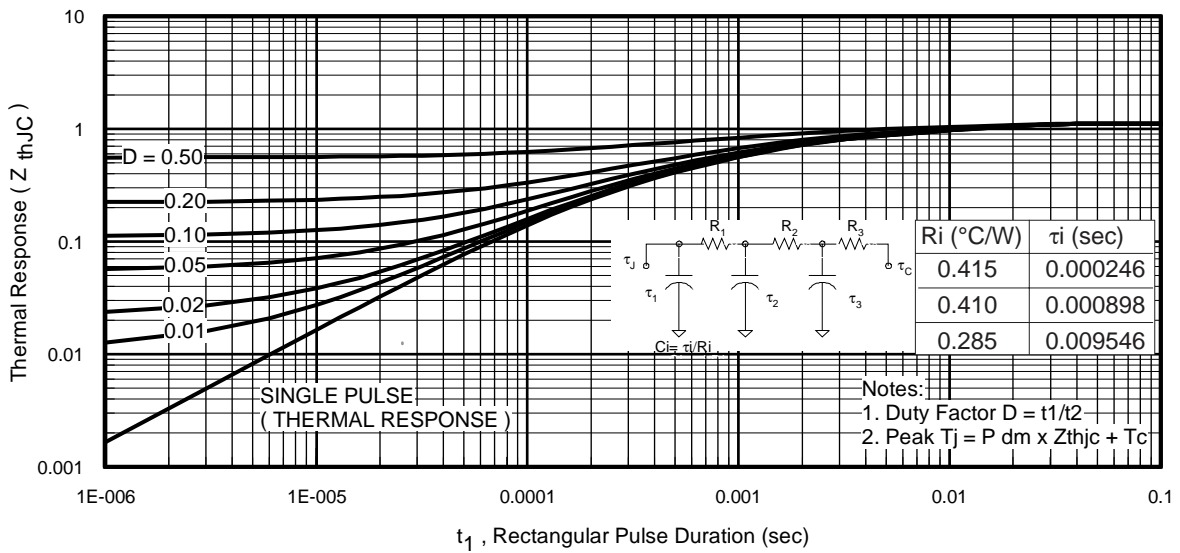

Fig 11. Maximum Effective Transient Thermal Impedance, Junction-to-Case
- ① Repetitive rating; pulse width limited by max. junction temperature. (See fig. 11).
- ② Limited by T_{Jmax}, starting T_J = 25°C, L = 0.077mH, R_G = 25Ω, I_{AS} = 51A, V_{GS} = 10V. Part not recommended for use above this value.
- ③ I_{SD} ≤ 51A, di/dt ≤ 260A/μs, V_{DD} ≤ V_{(BR)DSS}, T_J ≤ 175°C.
- ④ Pulse width ≤ 1.0ms; duty cycle ≤ 2%.
- ⑤ C_{oss eff.} is a fixed capacitance that gives the same charging time as C_{oss} while V_{DS} is rising from 0 to 80% V_{DSS}.
$Z_{thJC}(D, t_{av})$ = Transient thermal resistance, see figure 11)